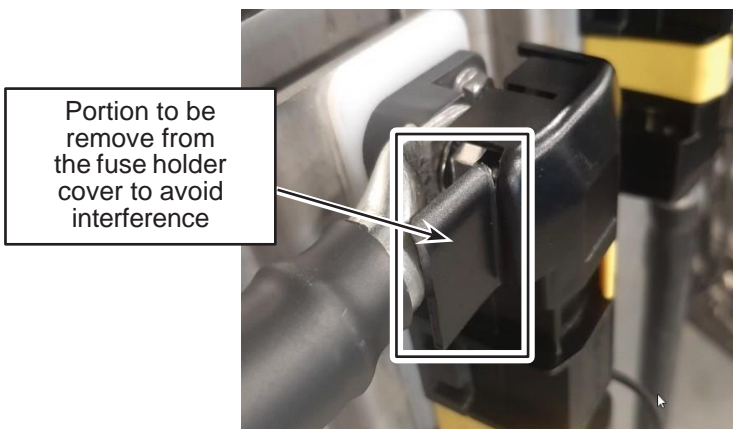

Figure 12 - Modification of the Fuse Holder Cover
- 1.35. Break the top street side portion of the fuse holder cover. See Figure 12.
- 1.36. Install the cover on the fuse holder. See Figure 12.